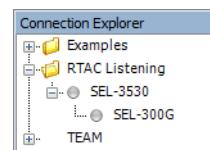

Figure 169 Connection Explorer
- Step 9. Right-click on **SEL-3530** to add a relay by using the same process as in *Step 8*. Add the **SEL-300G**, as shown in *Figure 169*.